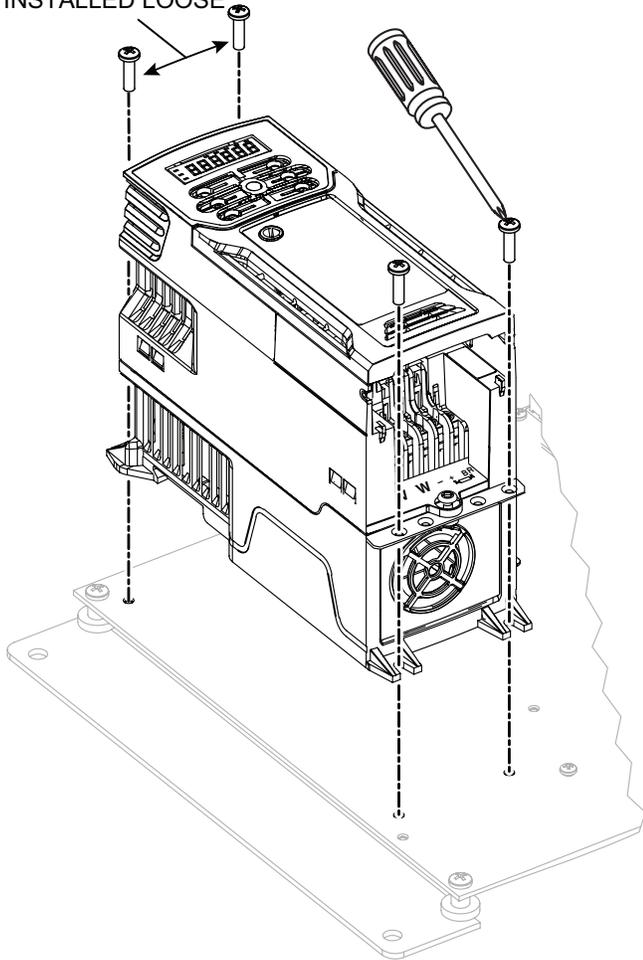

Figure 6. Mounting VFD to Control Box
2. Use a Phillips head screwdriver to remove four VFD back panel mounting screws. See Figure 6.
1. Use a Phillips head screwdriver and four phillips head screws to secure new VFD to back panel. See Figure 6.